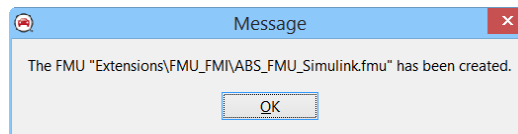

Figure 7. Generate an FMU file.
- ④ Use the **Import Channels** link to select **ABS Import** in the category **Braking Imports**.
- ⑤ Use the **Export Channels** link to select **ABS Export** in the category **Braking Exports**.
7. Go back to the **Run Control** screen and click the button **Generate FMU for this Run**. A new FMU with the specified pathname will be created (Figure 7).